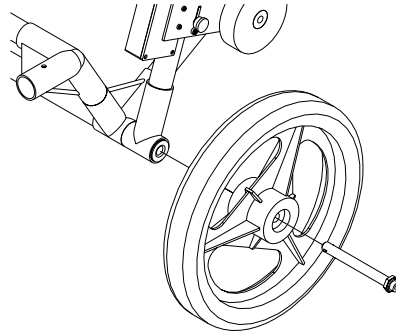

Figure: 2-3 Attaching the wheel.
1. **Attach wheels (if necessary):** The SmartCart may have been shipped without the wheels attached or they may have been removed for storage. If this is the case, find the axle for each wheel, press the button on the end of the axle, and insert the axle through the wheel and into the cart frame. This is shown in Figure 2-3